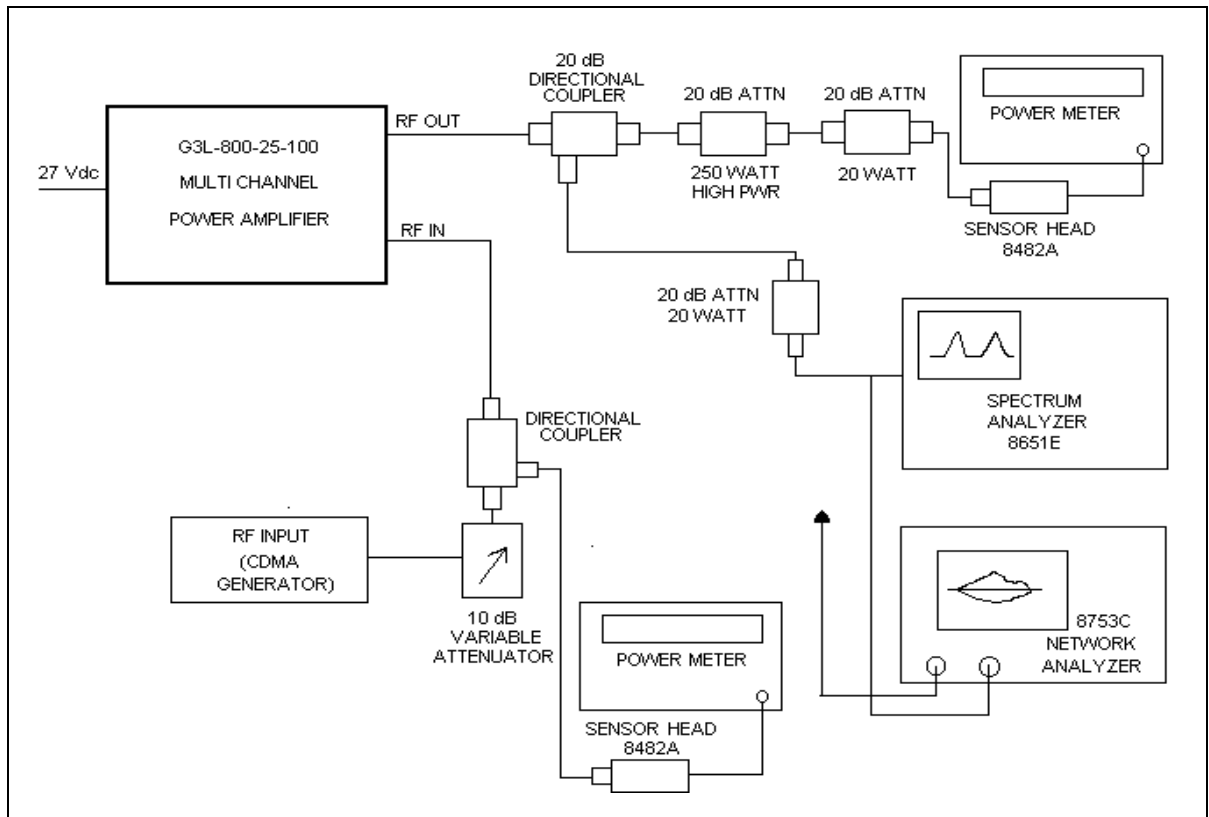

Figure 5-1. G3L-800-25-001 Amplifier Test Setup Diagram
Performance testing should be conducted every 12 months to ensure that the amplifier system meets the operational specifications listed in table 5-3. Also verify system performance after any amplifier module is replaced in the field. The test equipment required to perform the testing is listed in table 5-2, and the test setup is shown in figure 5-1.
1. Connect test equipment as shown in figure 5-1.